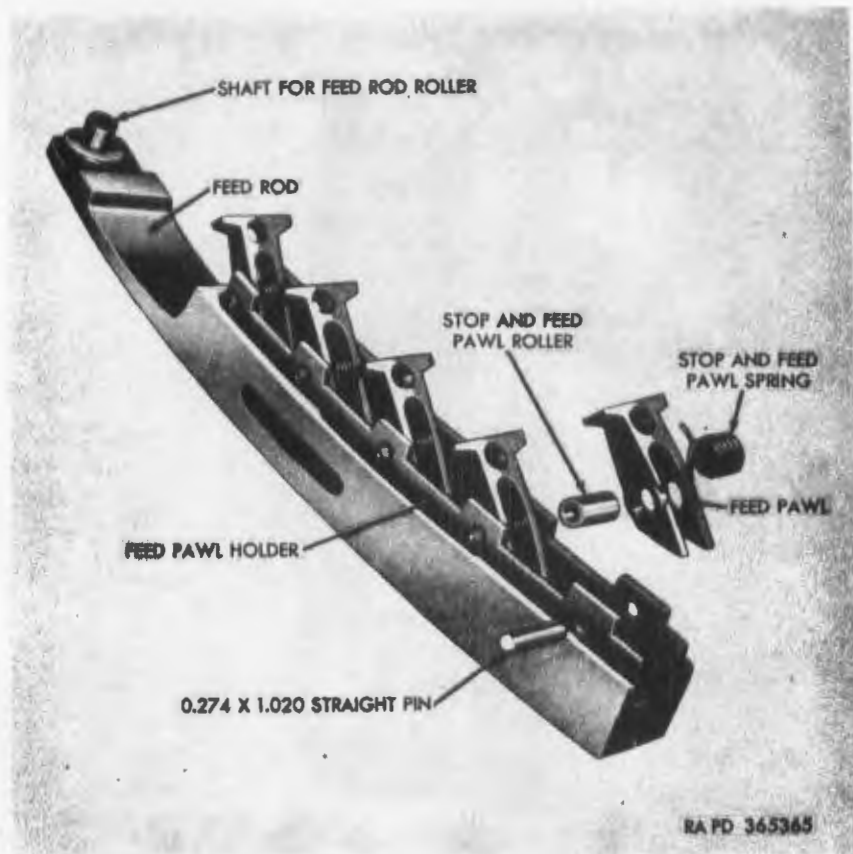

Figure 331. Right feed rod assembly—partially exploded.
- (c) Drive out straight pin (fig. 331) and remove the stop and feed pawl roller, spring, and pawl from the holder. Replace damaged parts.
- (d) Position stop and feed pawl spring (fig. 331) between arms of the feed pawl so that the tang of the spring engages the small hole in the arm of the pawl.
- (f) Rotate stop and feed pawl spring so that free end of spring is on underside and points toward closed end of pawl. Position the unit in the feed pawl holder. Arms of pawl should point away from shaft for feed rod roller (fig. 331). Curved surfaces of the arms should rest on bottom of holder. The spring should be operative; free end of spring should press against bottom of holder and point toward shaft for feed rod roller.
- (g) Align holes of holder and roller and drive in the 0.274 x 1.020 straight pin (fig. 331).